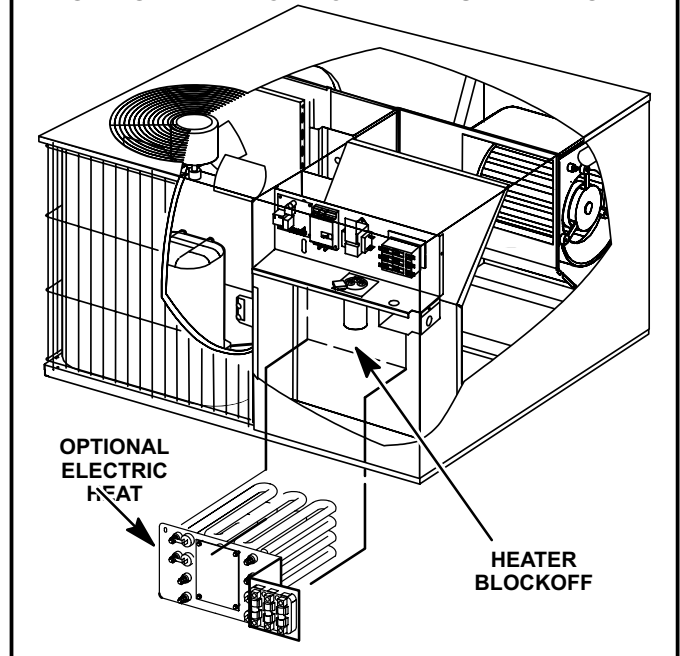

FIGURE 5
- 6 - Insert the heater into the control panel and fasten in the same mounting holes. See figure 5.